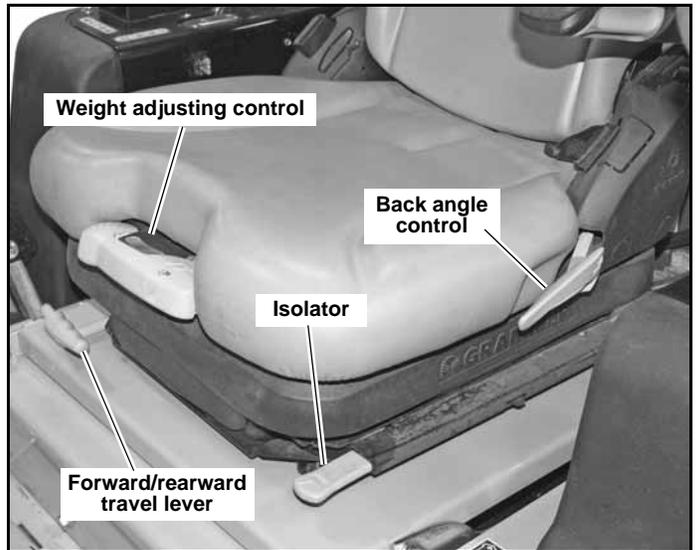

Figure 4-15
1. Back angle (Figure 4-15)
2. Forward and rearward travel (Figure 4-15)
3. Weight (Figure 4-15)
4. Isolator (Figure 4-15)